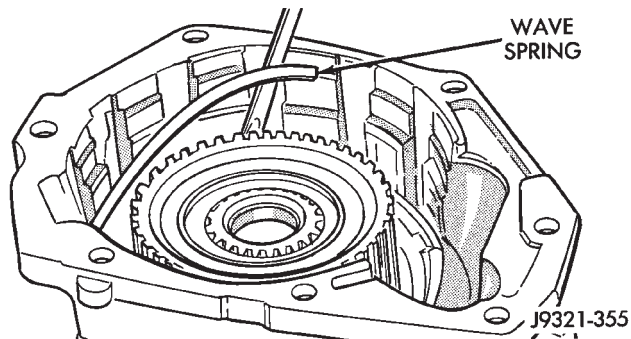

Fig. 200 Overdrive Clutch Wave Spring Removal/Installation
- (1) Remove overdrive clutch wave spring (Fig. 200).